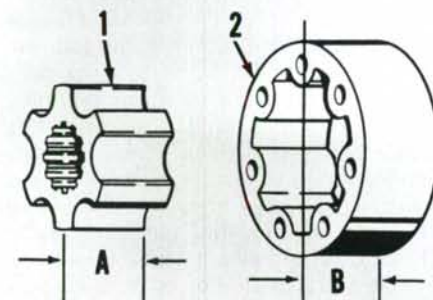
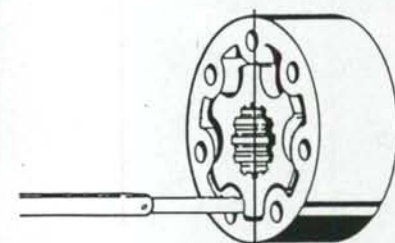

Fig. 54—Measure thickness of rotor (1) and stator (2). Renew steering valve assembly if thickness (A) is 0.05 mm (0.002 inch) less than stator thickness (B).
Fig. 55—Measure gap between rotor and stator with rotor and stator aligned as shown. If gap exceeds 0.13 mm (0.005 inch), renew steering valve.
Clean all parts and inspect for excessive wear, scoring or other damage. Renew complete valve assembly if stator and rotor, sleeve and spool or bore in valve body are damaged. Measure thickness of rotor (1—Fig. 54) and stator (2). Renew complete valve if rotor thickness (A) is 0.05 mm (0.002 inch) less than stator thickness (B). Measure gap between rotor and stator as shown in Fig. 55. Renew steering valve if gap exceeds 0.13 mm (0.005 inch).